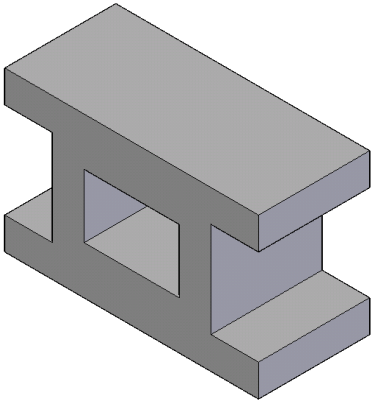
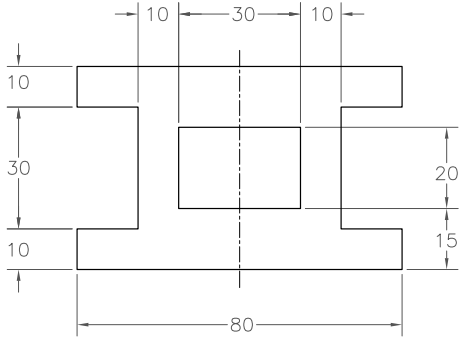

Figure 3-33 Model for Tutorial 1
Figure 3-34 Profile to be drawn for Tutorial 1
In this tutorial, you will draw the profile of the model shown in Figure 3-33. The profile shown in Figure 3-34 should be symmetric about the origin. You need not use the edit boxes available in the command bar to enter the values of the entities. Instead, you will use the parametric dimensions to complete the sketch. **(Expected time: 30 min)**
3. Click in the graphics window to create a rectangle. Refer to Figure 3-34 for the location of the rectangle.